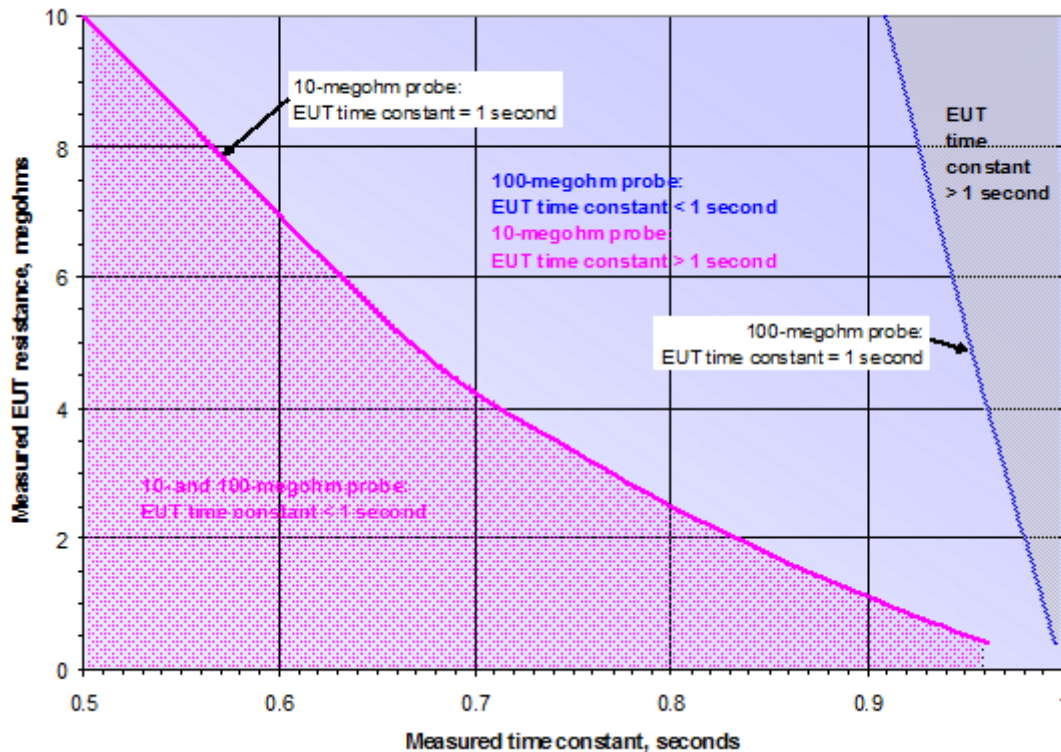

Figure 6
For each value of R_{EUT} and R_{probe} we can calculate the worst-case measured time constants, $T_{measured}$ for a T_{EUT} of 1 second. These are shown in Figure 6.
- 4) Plot R_{EUT} and T_{measured} on the chart, Figure 6.